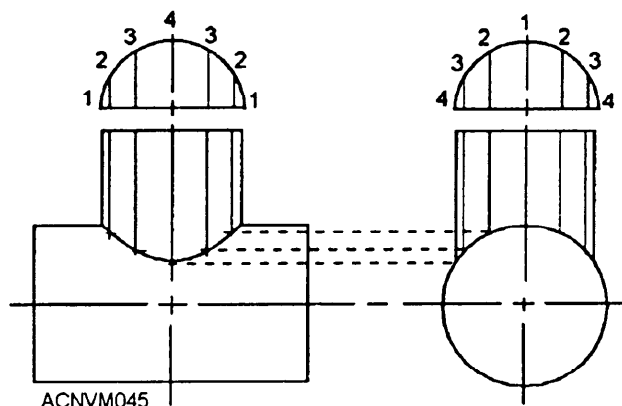

Figure 12-45.—Transferring elements to obtain miter line.
3. Draw the plan view above the constructed elevations, as shown in figure 12-45.